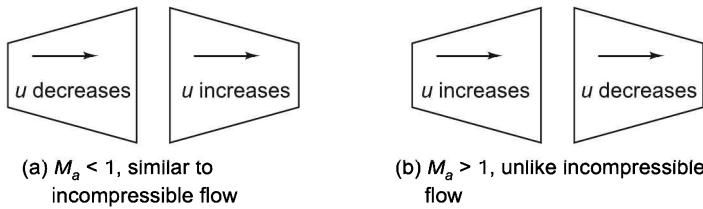

FIGURE 18.68 Response of subsonic and supersonic flows to area changes.
- (b) When $M_a < 1$ (subsonic flow), the behaviour resembles that for incompressible flows (Figure 18.68).
- (c) When $M_a > 1$ (supersonic flow), the area decreases, velocity also decreases and vice-versa (Figure 18.68).